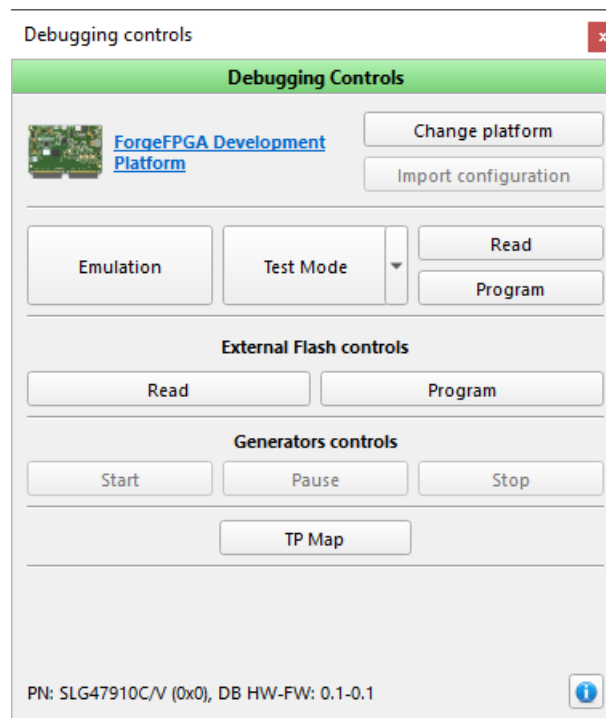

Figure 3: Debugging controls
Now let's review the different parts of the Debugging controls (Figure 3)
After the Development board with the Chip in the Socket Adapter Board has been connected, we can see the PN (Part Number) SLG47910 being displayed at the bottom of the Debugging Controls Dialog Box (Figure 3). The Debugging Control Window also indicates the Development Boards (DB) Hardware (HW) and Firmware (FW) version.